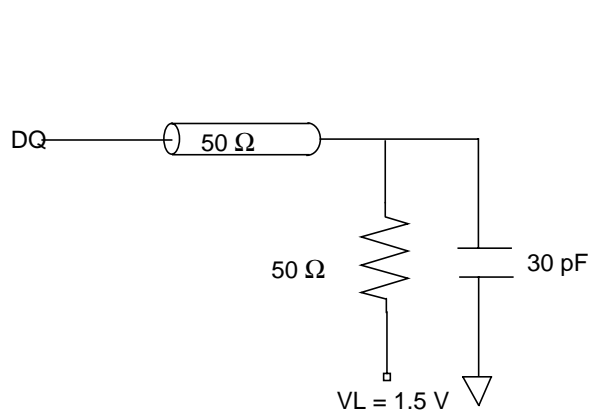

Fig. 1 Test Equivalent Load
1. See AC Test Loading figure 1 on page 7.
3. See AC Test Loading figure 1 on page 7.